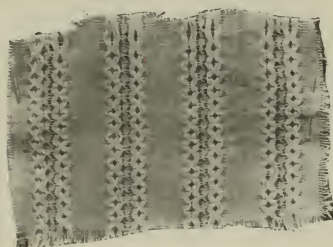

Fig. 1.
*Fig. 1* makes a very pleasing Leno stripe. It is a two doup Leno and can be woven on 13 harnesses and from the following counts of yarn: for the threads in the centre of the Leno stripe 2-80s and two ends through one
It will be noticed that the 9th and 10th and 13th harnesses are called the crossing thread harnesses, although in the doup it is the straightest thread, but a glance at *Fig. 1* will dispel that illusion, because in that case the crossing or Leno thread is the one that actually performs the crossing operation. It is necessary when making out the draft for the one that draws in the warp to show the exact manner in which the ends are drawn through the harnesses.